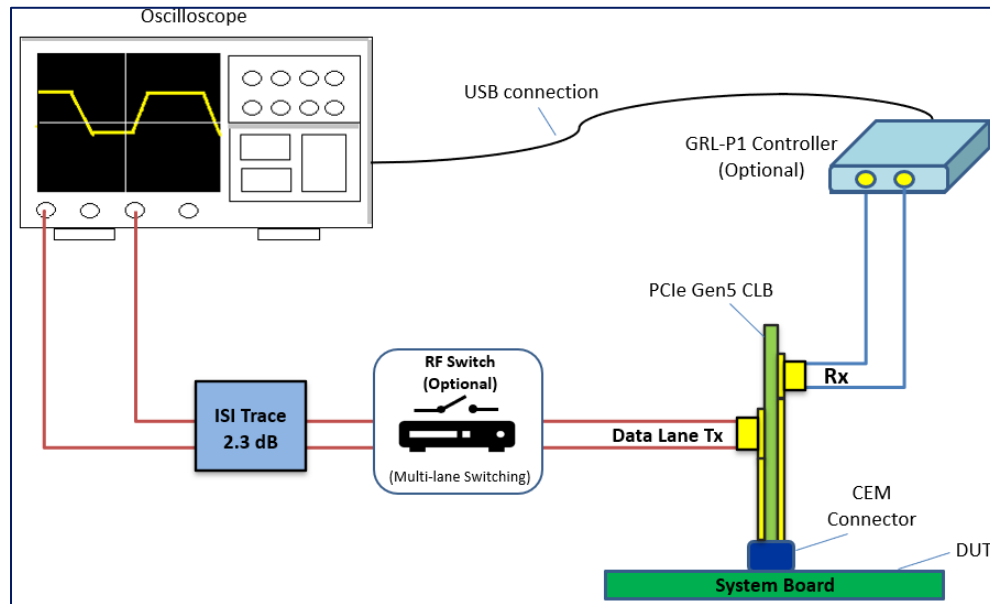

FIGURE 18. CONCEPTUAL PCIe GEN5 SYSTEM BOARD TX TEST SETUP DIAGRAM USING GRL-P1 (WITH RF SWITCH AND ISI)
4. If using ISI, connect a 2.3 dB ISI in between the RF Switch outputs and Scope channels (Figure 18 below).